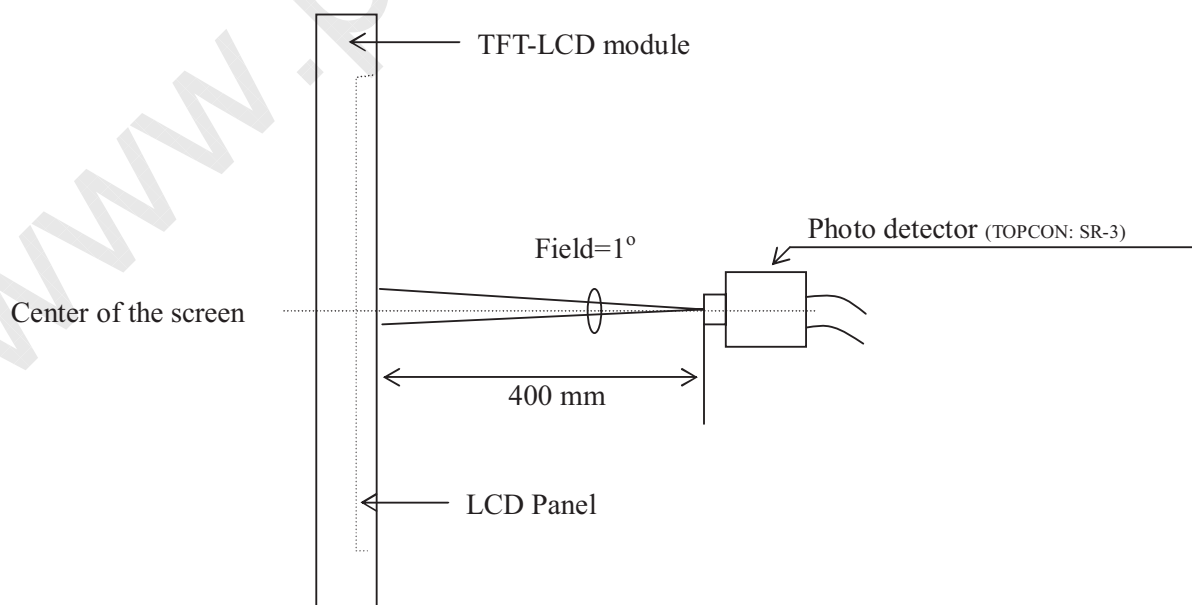

Fig 1. Optical characteristics measurement method
1. The optical characteristics shall be measured in a dark room or equivalent state with the method shown in Fig.1.